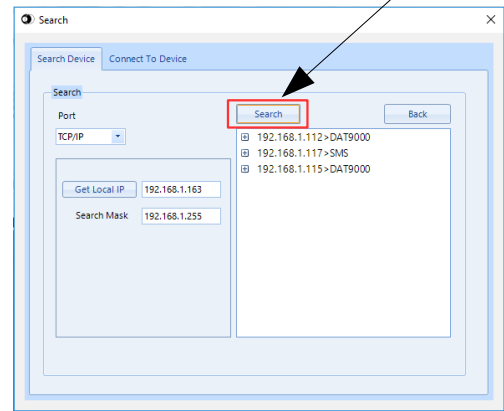

Fig. 3
- 5) Click on "Search" button to search the device in the network (Fig. 3)